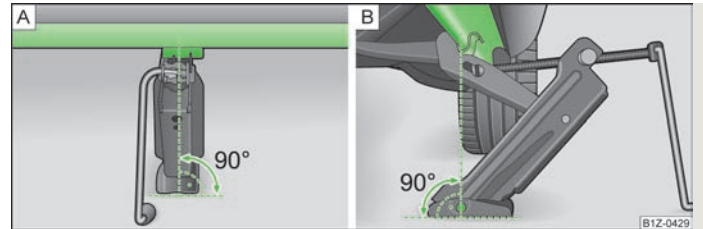

Fig. 153 Attach lifting jack
- Align the lifting jack so that its claw grasps the web » Fig. 153 - B below the embossing in the side surface of the lower sill.
- Ensure that the entire surface of the lifting jack base plate rests on level ground and is located in a vertical position to the area » Fig. 153 where the claw grasps the web.